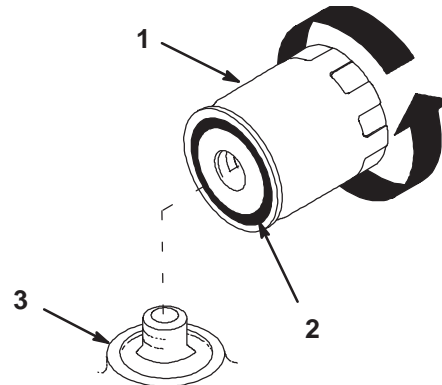

Figure 30
- Remove the old filter and wipe the filter adapter gasket surface (Fig. 30).
- Apply a thin coat of new oil to the rubber gasket on the replacement filter (Fig. 30).
- Turn the oil filter clockwise until the rubber gasket contacts the filter adapter (Fig. 30).
- Tighten the filter an additional 1/2 turn (Fig. 30).